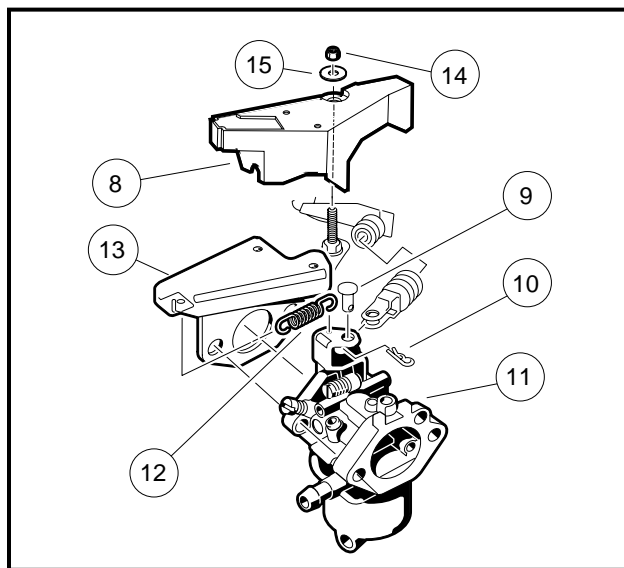

Figure 13-43 Governor Cable Connection
5. Install carburetor (11), throttle spring (12) and throttle spring bracket (13). Tighten to 50 in-lb (5.6 N·m) (**Figure 13-43, Page 13-23**).
8. Install governor cable clevis pin (9) through cable clevis and throttle valve and install cotter pin (10).
9. Install the governor guard (8), flat washer and nylon lock nut. Tighten to 30 in-lb (3.4 N·m) (**Figure 13-43, Page 13-23**).